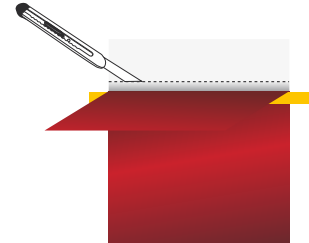

Figure03
- › Peel off 10 cm (4 in.) of the liner. (FIG. 03)